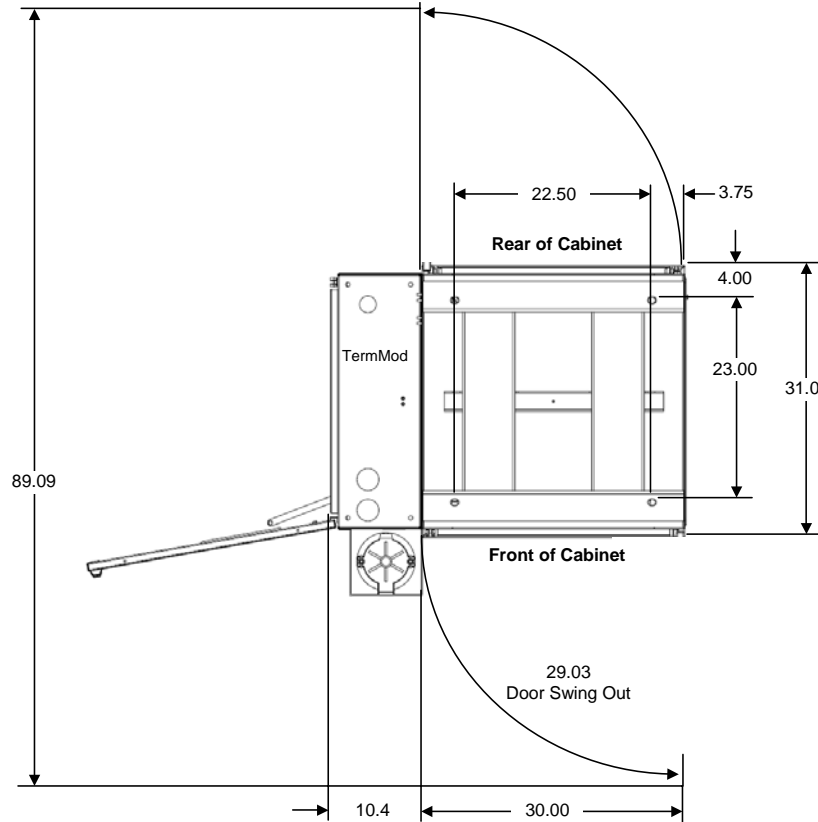

Figure 2 – RAC683031SDG2 Pad Layout. Cabinet with Telco Only option shown
Figure 2 below shows the pad layout for mounting hardware for the RAC683031SDG2 Cabinet. The cabinet can support up to (8) 170Ahr batteries for a combined weight of ~2000 lbs. The bottom area of the cabinet is ~6.45 ft² which means that the pad (or supporting structure) must be designed to support ~310 lbs./ft² minimum:
For pad install, locate ½" mounting anchors in the pad according to the layout in Figure 2. Section C covers specific instructions for accessing lifting eyes and mounting/securing the cabinet.
5. Once the cabinet is settled over intended mounting bolts, layout seen in Figure 2, secure using appropriate hardware (washers, nuts) as seen in Figure 2.